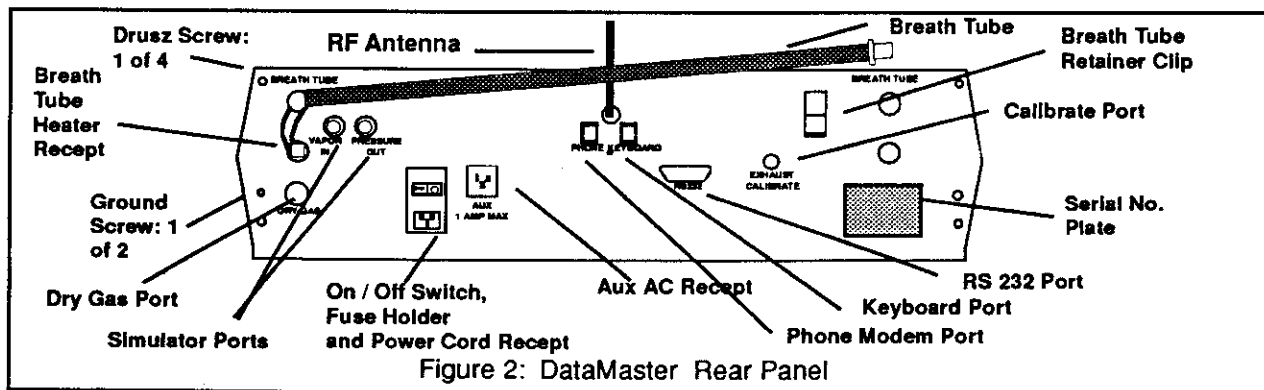

Figure 2: DataMaster Rear Panel
- B. Remove the RF Antenna, Breath Tube and Power Cord from the accessory bag. (Refer to Figure 2 "Rear Panel" for the following)
5. If your DataMaster is an Option "K" model, go directly to item 6 below. Locate the keyboard cable and plug one end into the port marked "Keyboard" on the rear panel of the DataMaster and the other end into the rear of the keyboard. Secure the holding screws on the keyboard side of the cable.
DataMaster Rear Panel: Figure 2